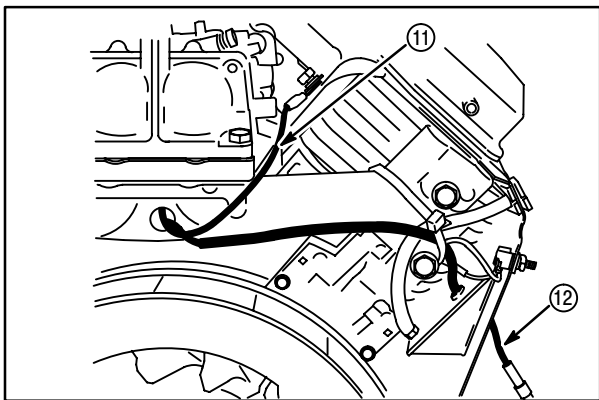

Fig. 34
4. Assemble carburetor (3), gasket (7), spacer (8) and gasket (9) to intake manifold.
5. Route both solenoid wires (10) through hole in intake manifold. Torque three screws to **65 in. lbs. (7 Nm)**.
6. Install solenoid ground wire (11). Torque screw to **65 in. lbs. (7 Nm)**.
7. Route long solenoid wire (12) under wire tie on manifold, then through hole in #1 cylinder shield, **Fig. 34**.